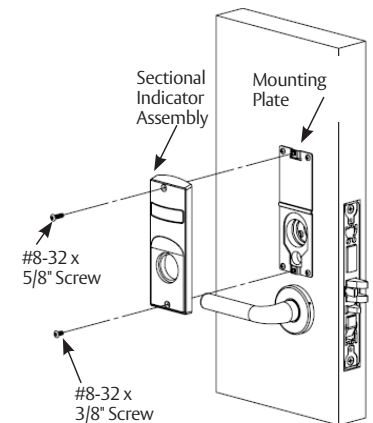

Figure 6
3. Secure indicator assembly to door. Torx security screws recommended. (Figure 6)